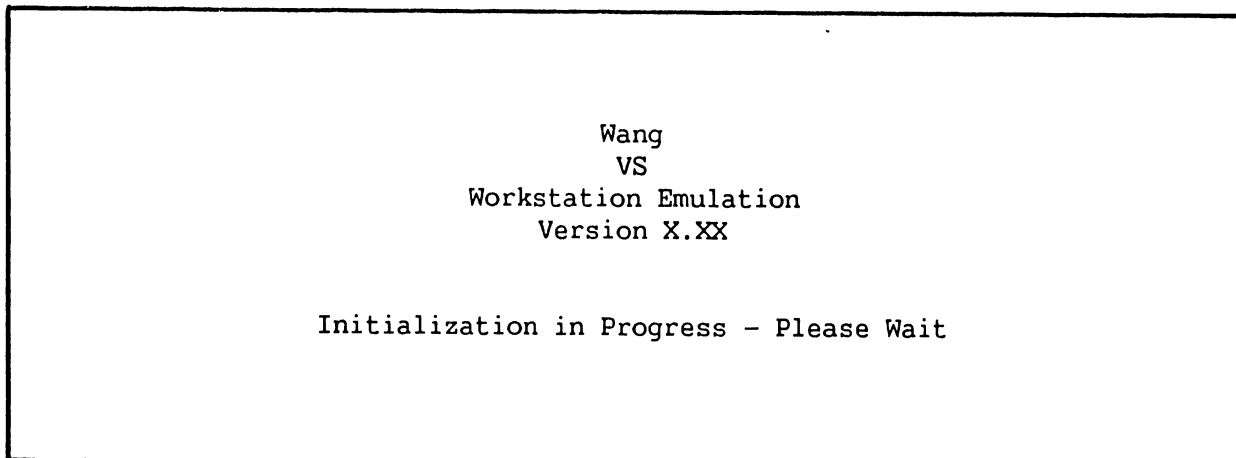

Figure 9-14. Workstation Initialization Screen
13. The Workstation Initialization Screen, figure 9-14, appears.